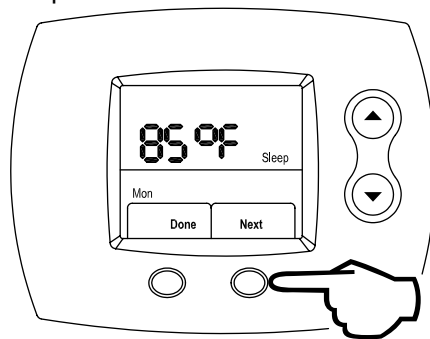

Figure 73
Step 26: Press the **RIGHT** (Next) button, as shown in Figure 73. Now, the Sleep time period is set for Monday. This completes the one day of the Setback schedule. To set the schedule for the remaining days of the week, repeat the procedures beginning at Step 2 on page 31 for Tuesday through Sunday schedules. Otherwise, proceed to Step 27.